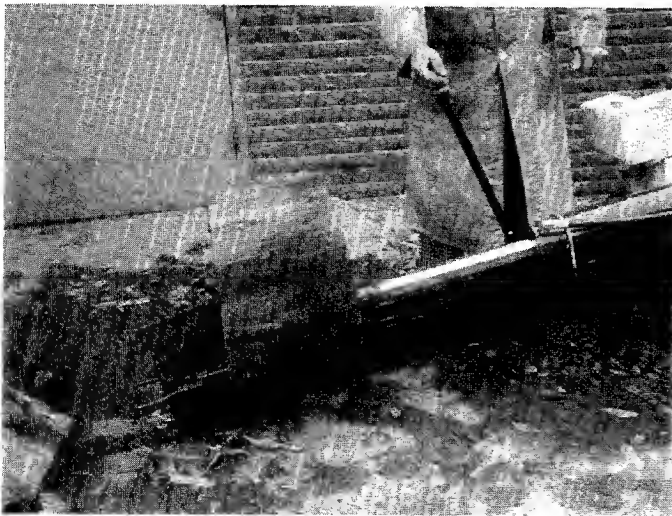

FIGURE 11
4. Remove your hand from the log and step behind the ram. See figure 11.